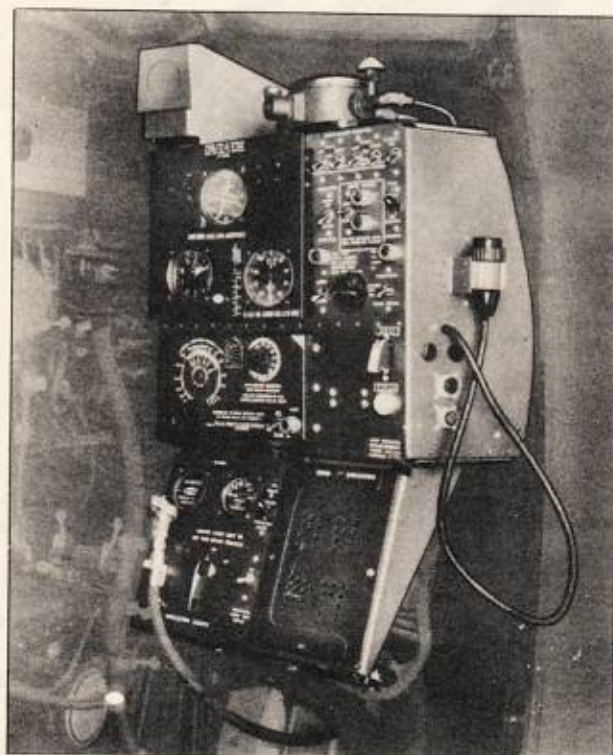

Figure 49—Bombardier's Control Panel
1. The bombardier's control panel for the all-electric bomb system has instruments and controls as shown in figure 49. The bomb release switch, on a flexible cord, is stowed in a clip on the side of the control panel.